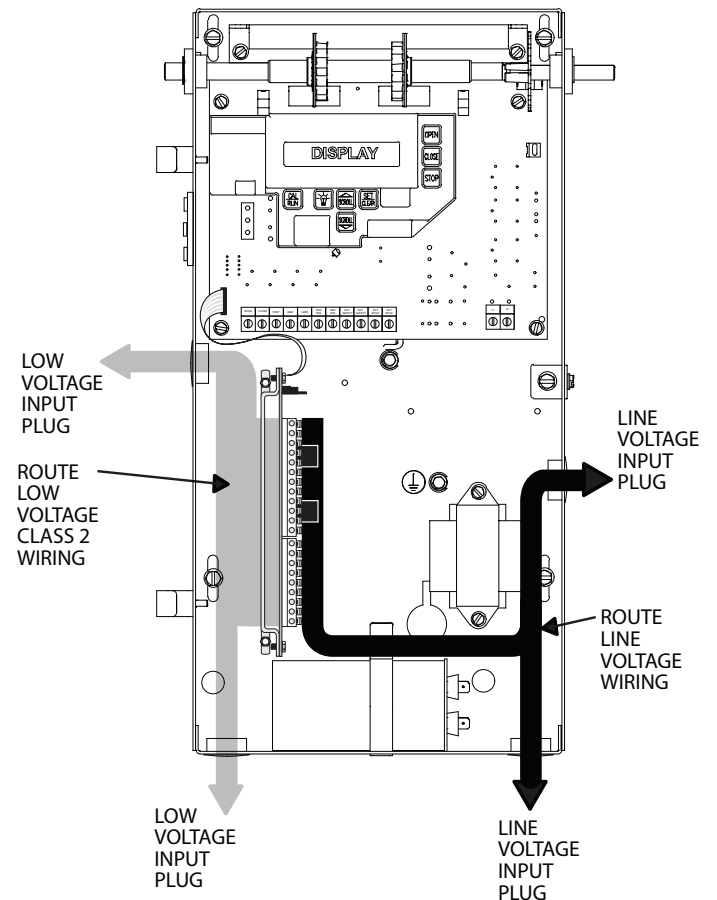

Fig.4C Wiring to AOM
1. Route control wiring as per Fig. 4C.